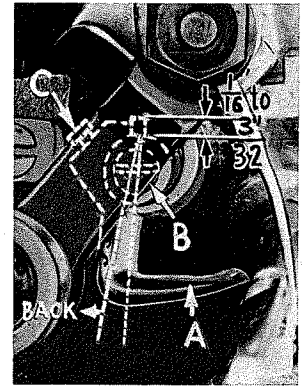

Fig. 8
Insert upper looper (A, Fig. 8) in its holder. Screw (B) holds upper looper in its holder, and permits it to be pushed in or out, or turned around its shank. Insert upper looper holder into upper looper shaft, if it is not already in place. Screw (C) on clamp holds the upper looper hold-in the shaft. Locate upper looper in its holder so that the shank extends $1/16$ to $3/32$ inch beyond holder.
When the upper looper is at the right end of its stroke, upper looper holder should be set to position upper looper shank back of vertical (Fig. 8). Be sure there is a clearance between heel of looper and casting.